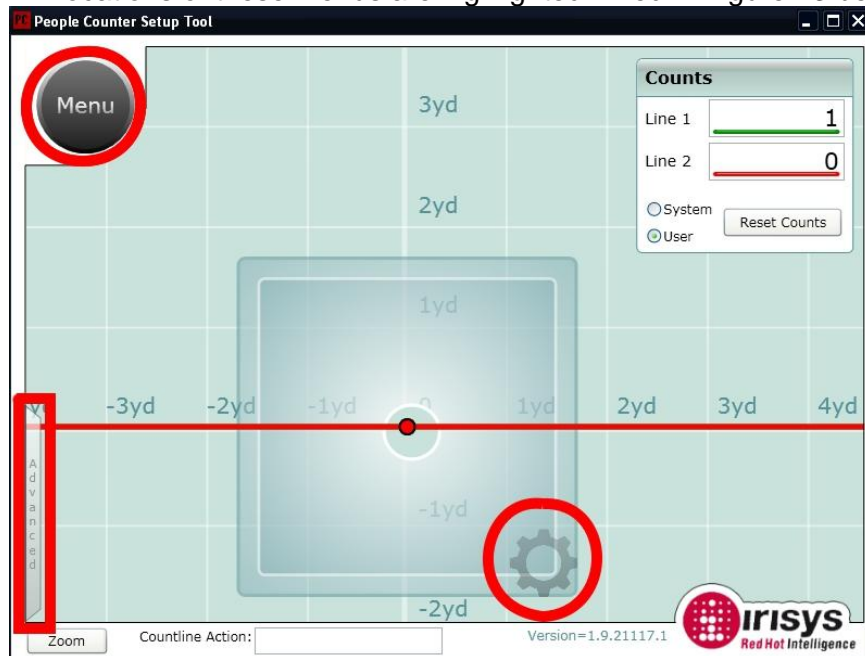

Figure 13
10. In the main screen of the configuration utility, there are a few important buttons to be mindful of: Menu, Advanced and Device Settings. The locations of these menus are highlighted in red in Figure 13 below.